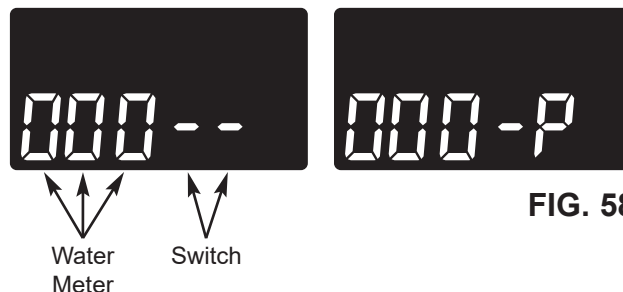

FIG. 58
3. The letter "P" and a dash (or dashes) indicate position switch operation (See Figure 58). If the letter appears, the switch is closed. If two dashes show, the switch is open.